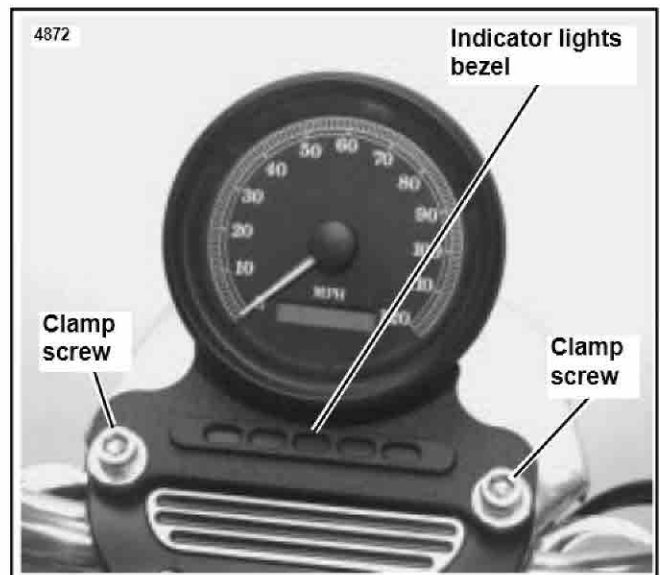

Figure 5. Handlebar Clamp Screws
- See Figure 5. Remove the screws that secure the gauge bracket to the handlebar clamp.
- See Figure 5. Place the indicator light bezel and color strip on front of gauge bracket. Be sure color strip is positioned on locating pins.
See Figure 5. Place speedometer bracket in position and install screws snugly enough to hold handlebars in place. Do not tighten at this time.